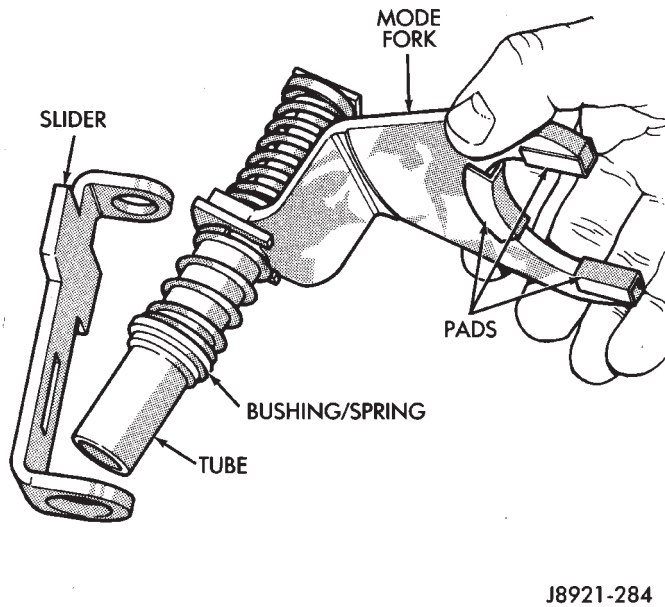

Fig. 77 Mode Fork Assembly Inspection
check springs and slider bracket (Fig. 77). Replace worn, damaged components.
- (14) Inspect mode fork assembly (Fig. 77). Replace pads and bushing if necessary. Replace fork tube if bushings inside tube are worn or damaged. Also